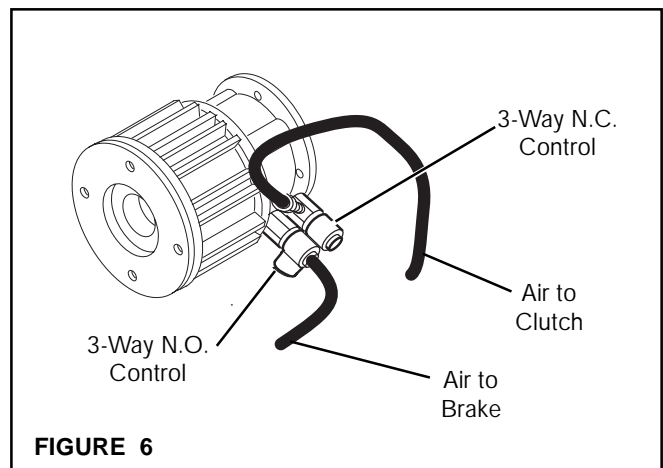

FIGURE 6
1. Install a 3-Way N.O. Control into the brake inlet port and a 3-Way N.C. Control into the clutch inlet port (See Figure 6).
2. Connect the air supply line to the inlet port (marked IN) on top of the 3-Way N.O. Control and an air supply line to the inlet port (marked IN) on the side of the 3-Way N.C. Control (See Figure 6).